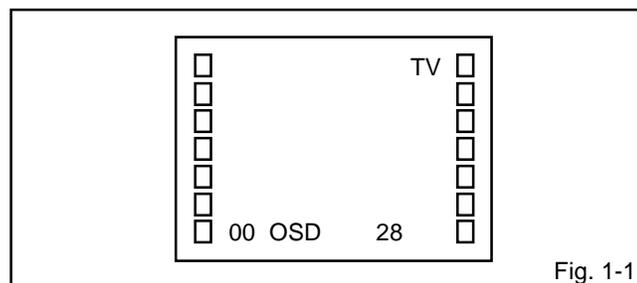

Fig. 1-1
1. In the condition of NO indication on the screen. Press the VOL. DOWN button on the set and the Channel button (9) on the remote control for more than 2 seconds to appear the adjustment mode on the screen as shown in Fig. 1-1.
4. Activate the adjustment mode display of Fig. 1-1 and press the channel button (01) on the remote control to select "CUT OFF".
4. Activate the adjustment mode display of Fig. 1-1 and press the channel button (10) on the remote control to select "R.BIAS".
2. Activate the adjustment mode display of Fig. 1-1 and press the channel button (06) on the remote control to select "V.SIZE".
3. Activate the adjustment mode display of **Fig. 1-1** and press the channel button **(22)** on the remote control to select "TINT".
4. Activate the adjustment mode display of **Fig. 1-1** and press the channel button **(19)** on the remote control to select "COLOR CENT".
2. Activate the adjustment mode display of **Fig. 1-1** and press the channel button **(05)** on the remote control to select "H.PHASE".
2. Activate the adjustment mode display of **Fig. 1-1** and press the channel button **(13)** on the remote control to select "BRI.CENT".
2. Activate the adjustment mode display of **Fig. 1-1** and press the channel button **(07)** on the remote control to select "V.SFT".
1. Activate the adjustment mode display of **Fig. 1-1**.
2. Activate the adjustment mode display of **Fig. 1-1**